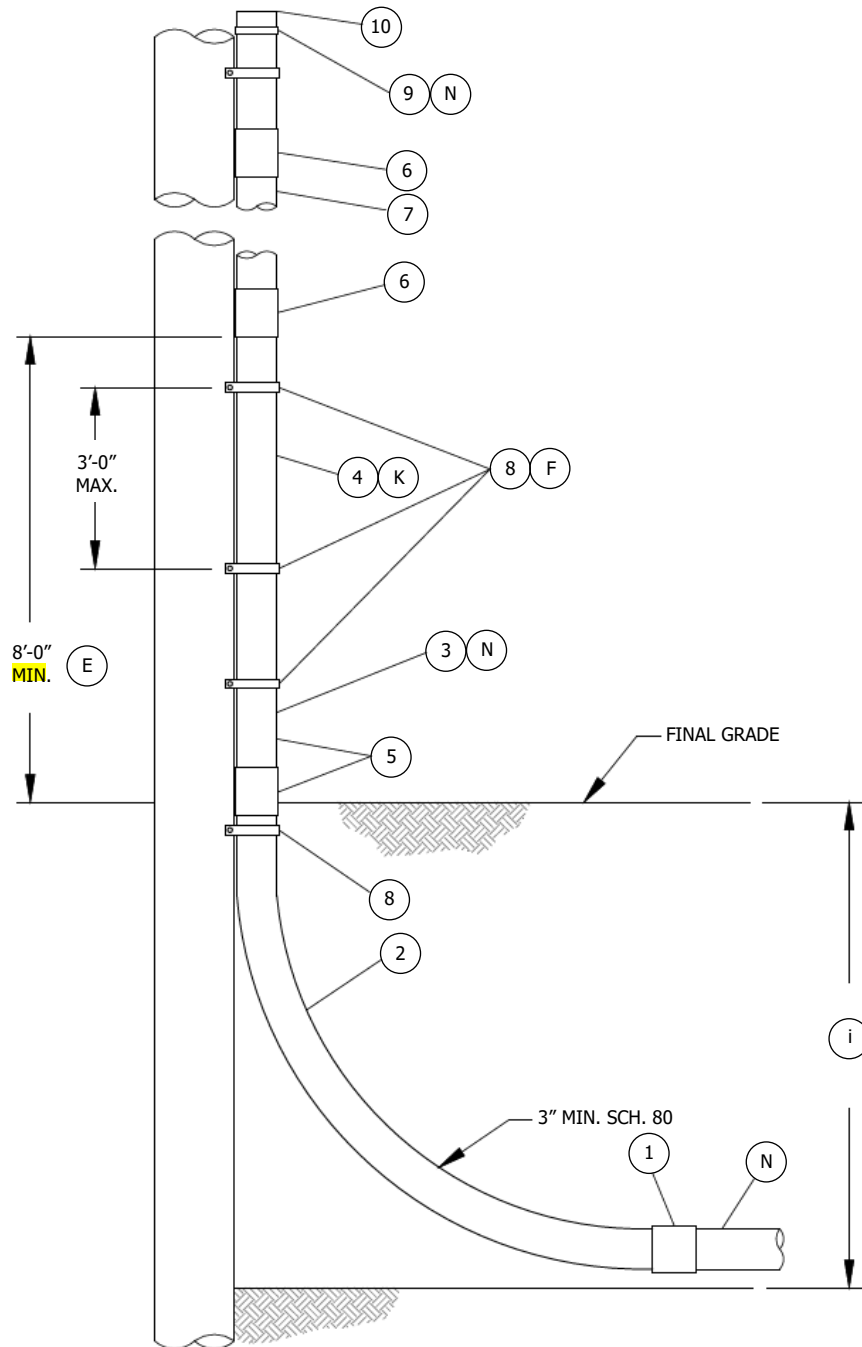

FIGURE 5
- (K) USE FIGURE 5 ALTERNATE CONSTRUCTION FOR A SINGLE RISER WHEN:
- i. FIELD CONDITION DO NOT ALLOW ROOM FOR LADDER ARM BRACKETS (I.E., CONDUIT WOULD EXTEND INTO THE STREET, SIDEWALK, DRIVEWAY, ETC.). THIS INSTALLATION WOULD BE LIMITED TO ONE SDG&E RISER, UP TO 3 INCHES. (NO OTHER RISER(S) LARGER THAN 3 INCHES WOULD BE ON THE POLE.) ONE HALF OF THE POLE MUST REMAIN CLEAR FOR CLIMBING SPACE, AND G.O. 95 REQUIREMENTS MUST BE FOLLOWED.
- (L) ONE RISER ON THE POLE 3 INCHES MAXIMUM AND ONE RISER ON THE BACK SIDE OF THE LADDER ARM BRACKET 3 INCHES MAXIMUM ARE PERMITTED BACK-TO-BACK. A MAXIMUM OF TWO 4-INCH COMMUNICATIONS RISERS ARE PERMITTED ON THE BACK SIDE OF A LADDER ARM ASSEMBLY. THE ADJACENT POLE QUADRANT MUST BE VACANT TO INSTALL ANY 4-INCH RISER ON THE BACK OF THE LADDER ARM BRACKET AND MUST REMAIN VACANT AFTER INSTALLATION.
- (M) CONCRETE ENCASEMENT IS REQUIRED AROUND THE ELBOW(S) FOR 5-INCH PRIMARY CONDUIT(S).